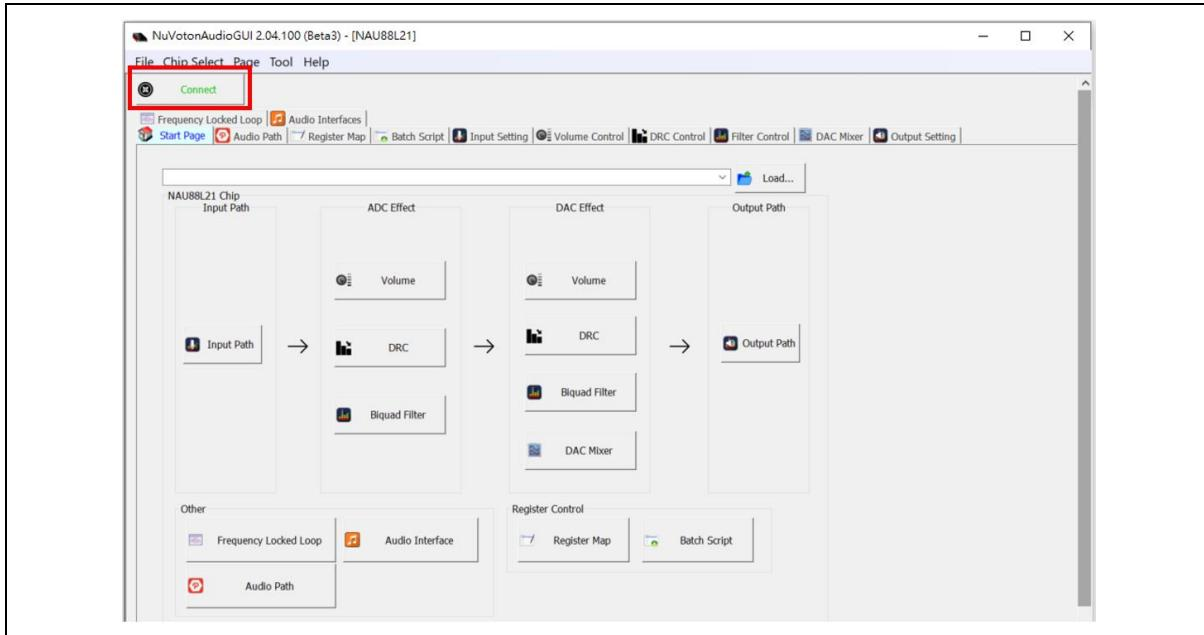

Figure 3-6 NuvotonAudioGUI Operating Step (3)
3. NuvotonAudioGUI will automatically read connection status. If the hardware and software are properly configured, a green [Connect] will appear on the upper left corner of the NuvotonAudioGUI window, as shown in Figure 3-6. Then users can issue I2C commands through NuvotonAudioGUI to control NL-NAU88L21.